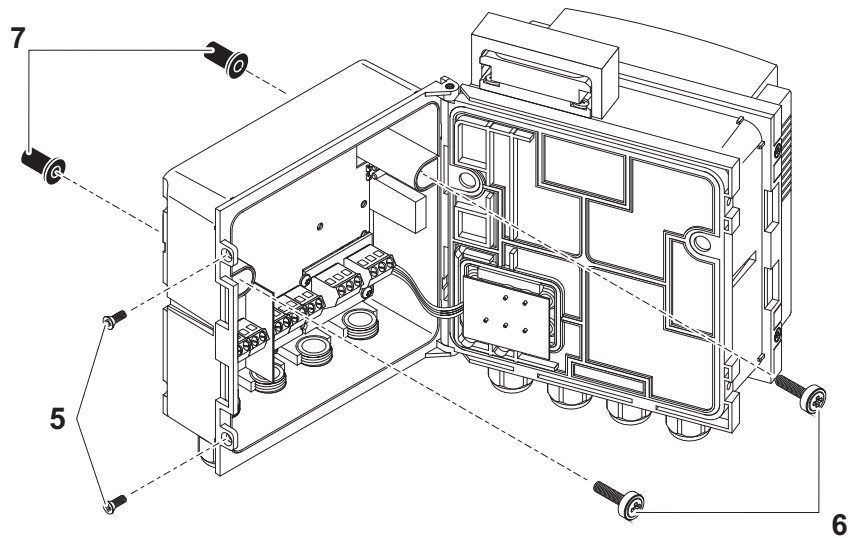

Fig. 3-16 Mounting the sun shield: Premounting the ISO blind nuts
| 2 | Remove the two countersunk screws (pos. 5 in Fig. 3-16) and swing open the lid. |
| 3 | Insert the cheese-head screws (pos. 6 in Fig. 3-16) with the plastic washers in the drilled mounting holes and loosely screw in the ISO blind nuts (pos. 7). |
| 4 | Position the DIQ/S 182-XT-4-MOD on the sun shield and fix it into place with the two screws (pos. 6 in Fig. 3-16). |
| 5 | Close the lid and fix it with the two countersunk screws (pos. 5 in Fig. 3-16). |